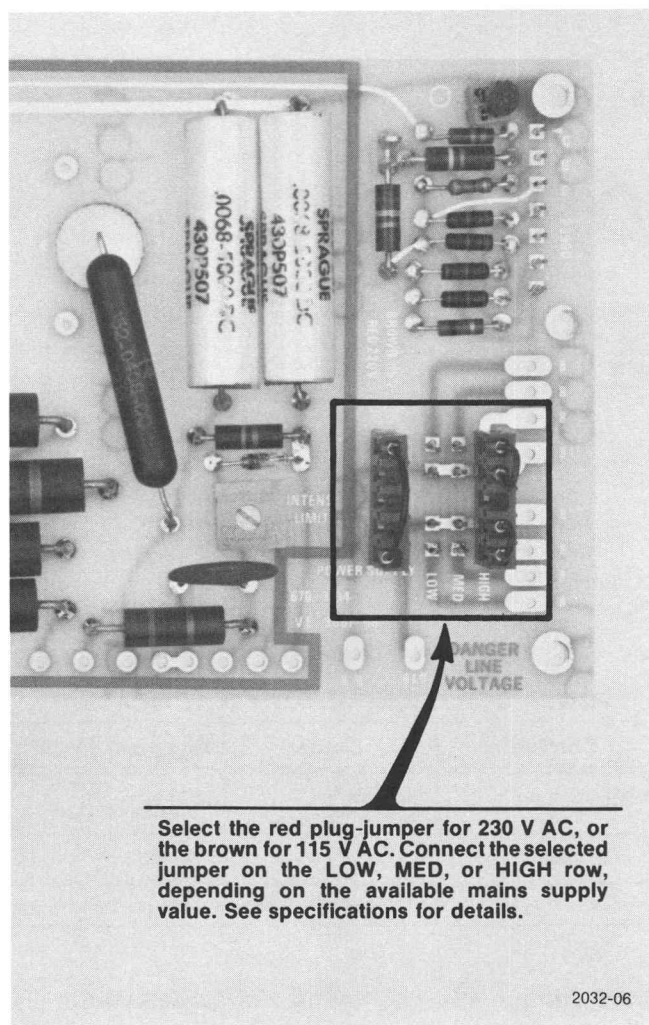

Fig. 3-1. Mains voltage and range selector.
2. Insert the proper line-voltage selector plug (the brown plug for 115 V operation or the red plug for 230 V operation) on the line-voltage selector pins (located on the Power Supply board) labeled for the desired nominal line-voltage range. Refer to Fig. 3-1 for location and additional information.